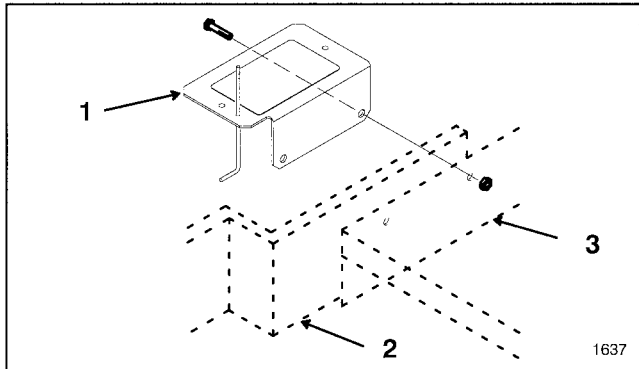

Figure 12
1. Mount battery holder and cutting unit carrier frame at the same time to upper holes on right side of traction unit. Use (2) 1/2-13 x 1-1/4" lg. flange head cap-screws and lock nuts (Fig. 12).